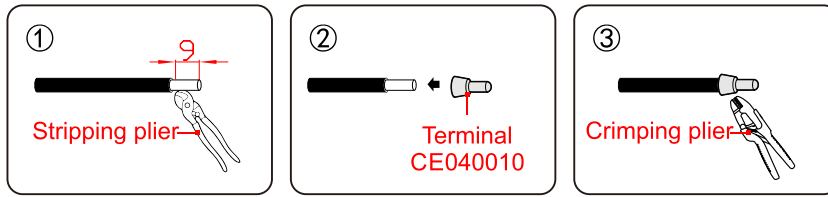

Figure4-21 Crimp the 230V auxiliary power supply cables
Step 2 Crimp the 230V auxiliary power supply cables, as shown in Figure4-21.